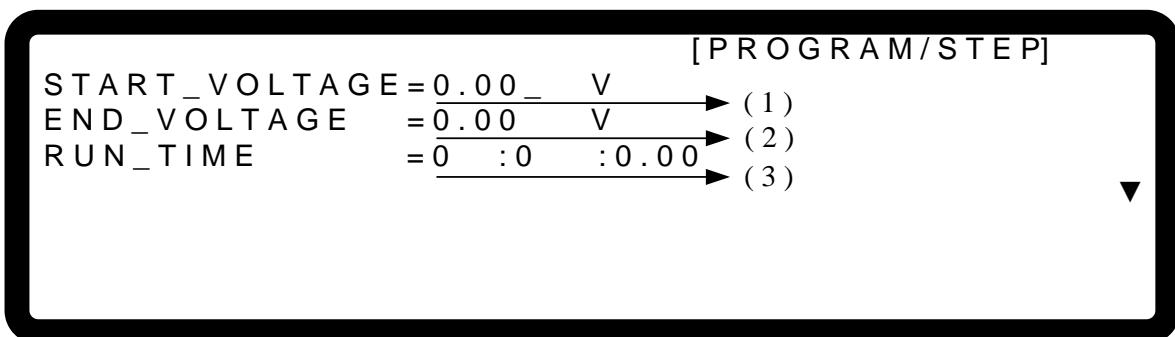

Figure 4-19
1. Use the “”, “” keys to move the cursor to the column to be set as shown in Figure 4-19 (1). Set the start voltage of STEP MODE.
1. Use the “” keys to move the cursor to the column to be set as shown in Figure 4-19 (2). Set the end voltage of STEP MODE.
1. Use the “” keys to move the cursor to the column to be set as shown in Figure 4-19(3). Set the run time of STEP MODE. The time format is **HOUR:MIN:SEC** and the maximum setting is 99 hours 59 minutes and 59.99 seconds.